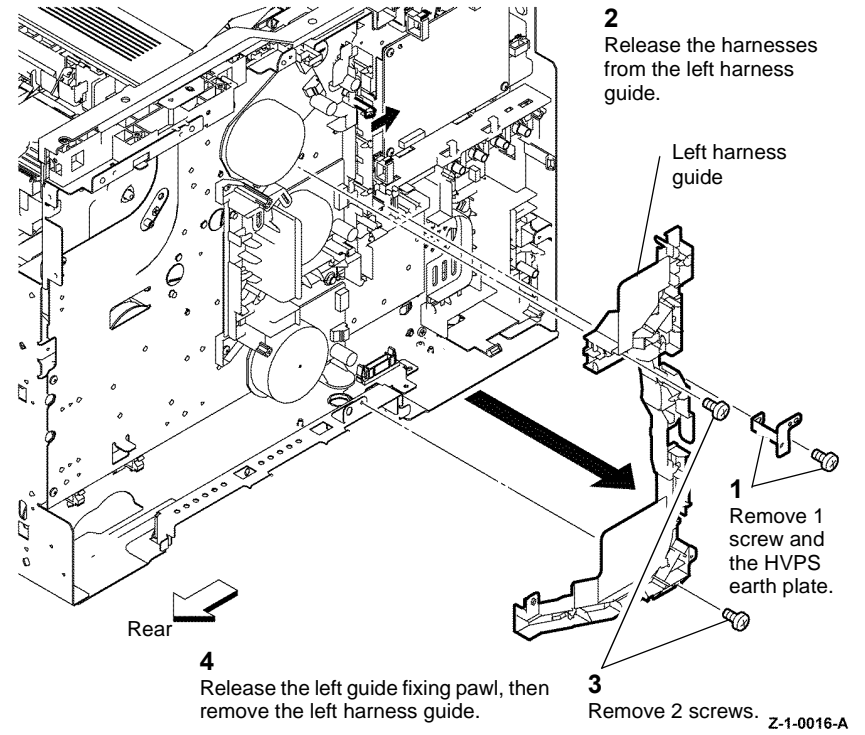

Figure 4 Left harness guide
5. Remove the left harness guide, Figure 4.